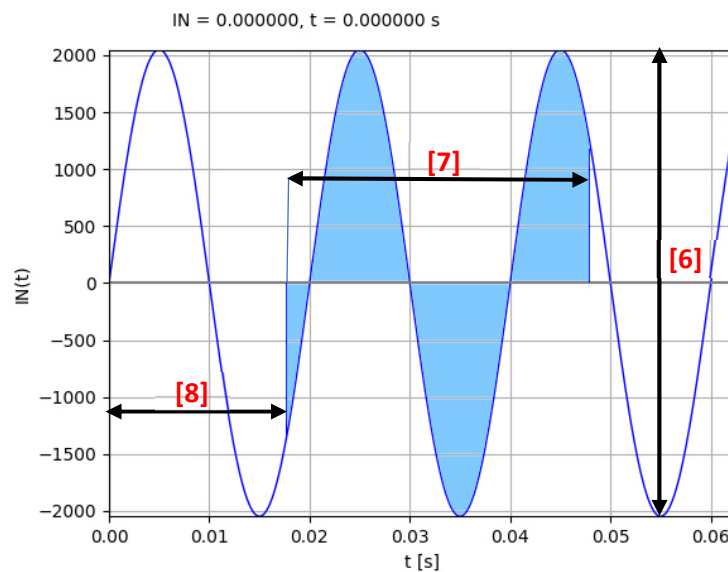
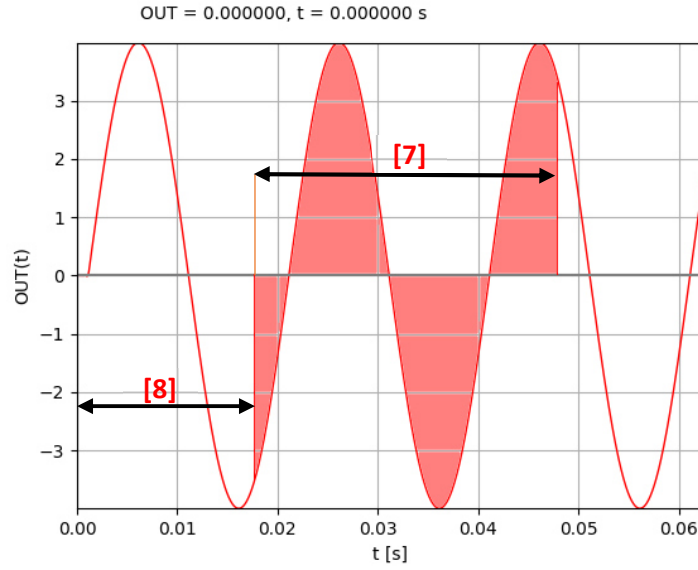

FIGURE 8: INPUT SIGNAL
FIGURE 9: OUTPUT SIGNAL
- **[6]** Signal amplitude: amplitude of the input signal (see Figure 8 below). In case of integer-based filters higher amplitude values may cause overflow, the lower values may cause uncertain operation.
- **[7]** Samples per steps: the number of time-based datapoints, used for the calculation of a single frequency step (see Figure 8 and Figure 9 below). The higher this value, the longer simulation time must be expected. The lower this value, the more likely your filter does not meet the specification.
- **[8]** Initially ignored samples: due to transient behaviour – especially in case of IIR filters – the first samples cannot be used – thus must be ignored – for an accurate frequency-based simulation (see Figure 8 and Figure 9 below). The higher its value, the longer time the simulation takes. The lower its value the more likely your filter does not meet the specifications.
- sps : value of “Samples per steps”, marked by [7] on Figure 8 and Figure 9,
- iis : value of “Initially ignored samples”, marked by [8] on Figure 8 and Figure 9,
- $\sum_{t=iis}^{(iis+sps)} |IN(t)|$: the absolute value of the blue marked surface on Figure 8,
- $\sum_{t=iis}^{(iis+sps)} |OUT(t)|$: the absolute value of the red marked surface on Figure 9.